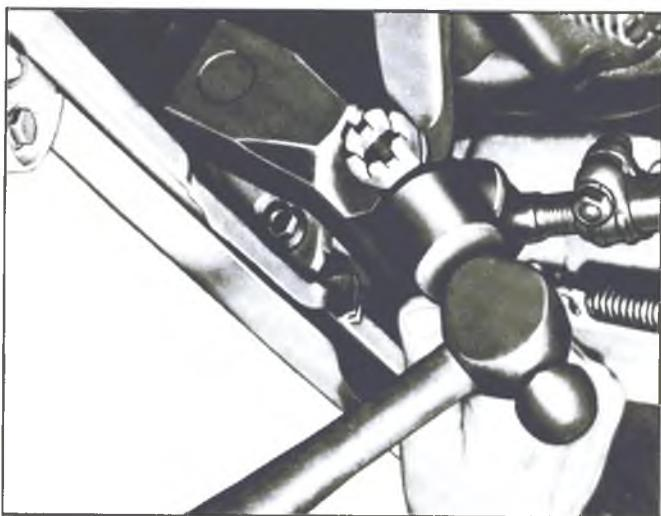

Fig. 103—Ball Stud Removal - Typical
3. To remove outer ball stud, tap on steering arm at tie rod end with a hammer while using a heavy hammer or similar tool as a backing (fig. 103).
4. Remove the relay rod from the pitman and idler arms by tapping on the relay rod ball stud bosses with a hammer, while using a heavy hammer as a backing (fig. 103).
2. Remove the cotter pin and castellated nut from ball stud at the relay rod. Remove the ball stud from the relay rod by tapping on the relay rod boss with a hammer, while using a heavy hammer as a backing (fig. 103).
3. Remove pitman arm or relay rod from ball stud by tapping on side of rod or arm (in which the stud mounts) with a hammer while using a heavy hammer or similar tool as a backing (fig. 103). Pull on linkage to remove from stud.